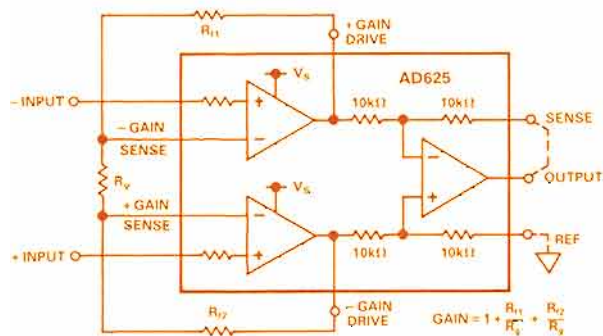

Figure 1. Basic application of the AD625 - functional diagram.
(1). Essentially, the AD625's circuit is a variation of the classical "3-op-amp" instrumentation amplifier circuit (Figure 1). The differential input voltage ( $V_{in} = V^+ - V^-$ ) is duplicated across a pair of "gain sense" terminals, which are connected to a resistor,  $R_g$ . The current through  $R_g$  (equal to  $V_{in}/R_g$ ) is furnished through a pair of feedback resistors,  $R_{f1}$  and  $R_{f2}$  from the outputs of the two input amplifiers, which must be at the correct voltages to adjust the voltage across  $R_g$  to precisely equal  $V_{in}$ .